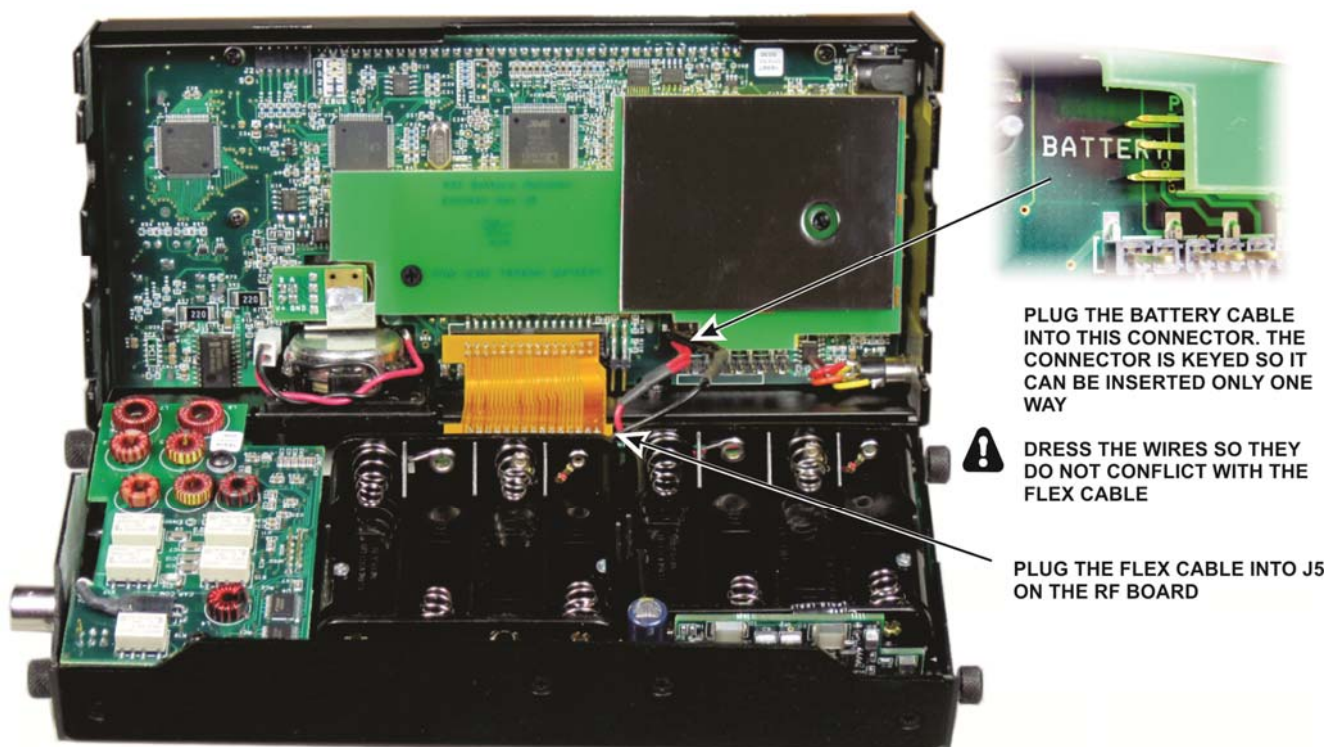

Figure 50. Connecting the Flex and Battery Cables.
- Set the top cover assembly next to the bottom cover and connect the flex cable and battery cable as shown in Figure 50. Ensure the speaker cable is still routed over the speaker as shown so it won't be trapped between the battery holders and the CP board when the cover is closed.